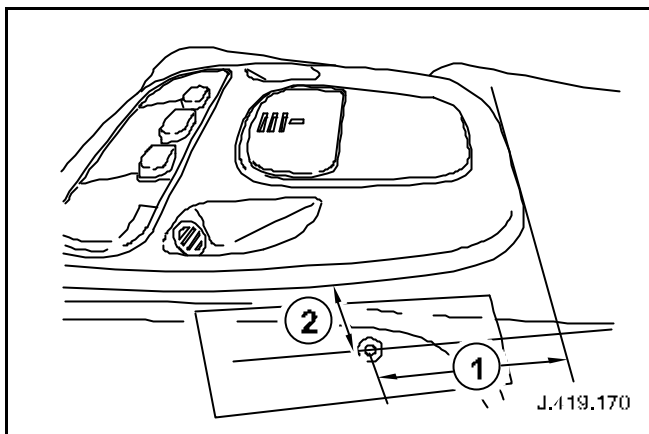

Fig. 2
- 7 Measure and mark point 65mm forward of overhead console rear edge (see 1 Fig. 2) and measure and mark point 25mm from driver's side edge of overhead console (see 2 Fig. 2).